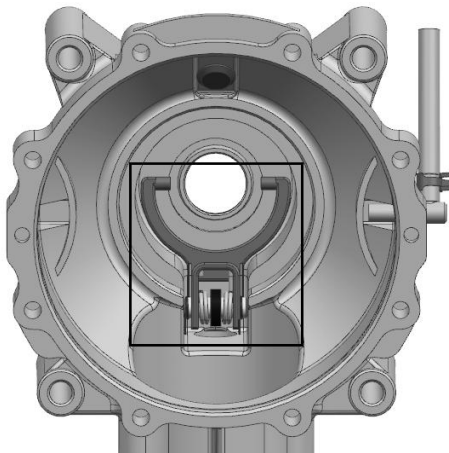

Fig 12
13. Carefully remove the shift yoke assembly from the gearcase cover. → Fig 12
5. Carefully install the shift yoke assembly into the gearcase cover. → Fig 12